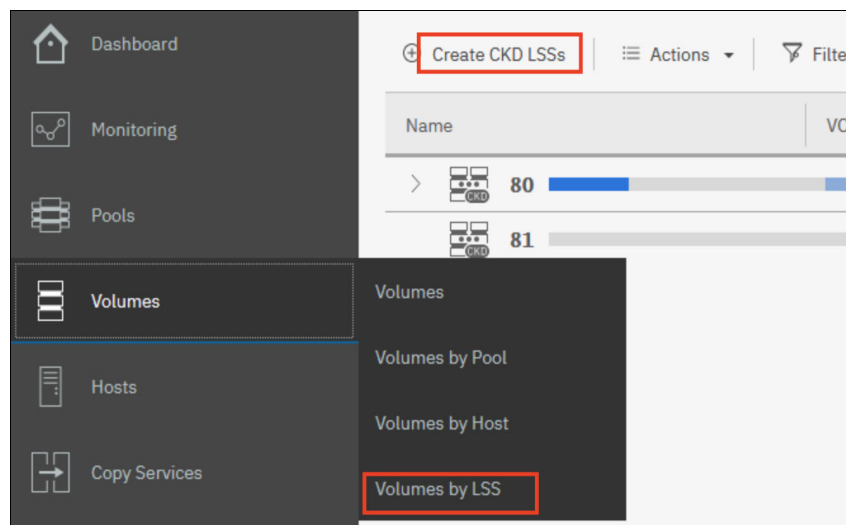

Figure 9-69 Creating CKD volumes by LSS
3. Click the **Create CKD LSSs** tab from the Volumes by LSS window, as shown in Figure 9-69.